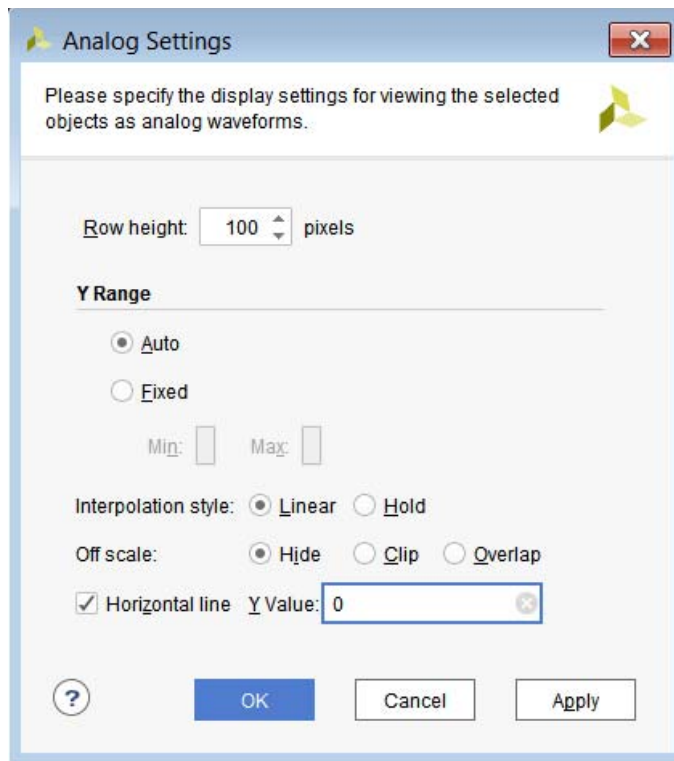

Figure 5-3: Analog Settings Dialog Box
- **Analog Settings:** Opens the Analog Settings dialog box (shown in Figure 5-3), which provides options for the analog waveform display.